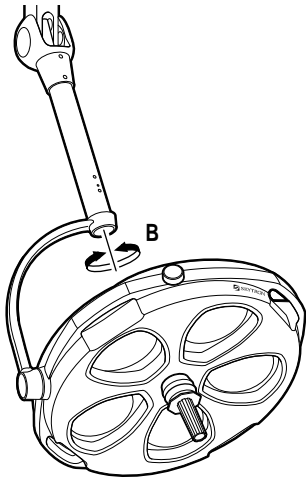

Figure 2-6. Model 23 Lighthouse Roll
a. Check the roll axis tension of the model 23 lighthouse by moving it through its full 360° range of travel. See figure 2-6.